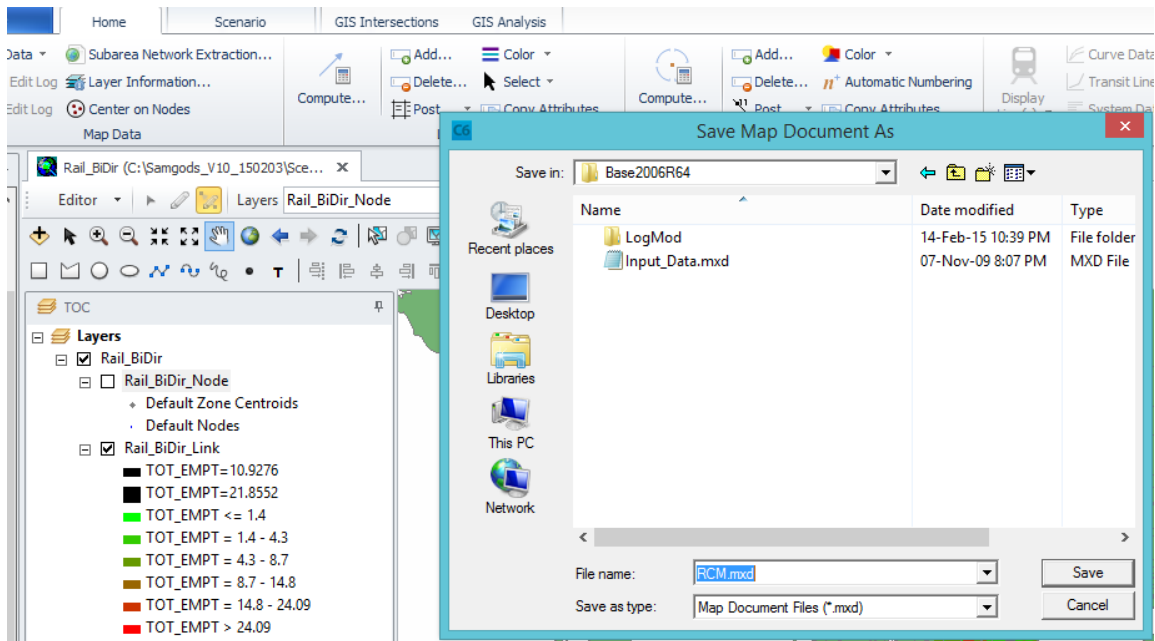

Figure 106 Save the map if necessary
13) Click on "X" to close the map, the system will prompt if it is necessary save the map giving a location and a name. Select the scenario folder and give the name "RCM.mxd", see Figure 106.